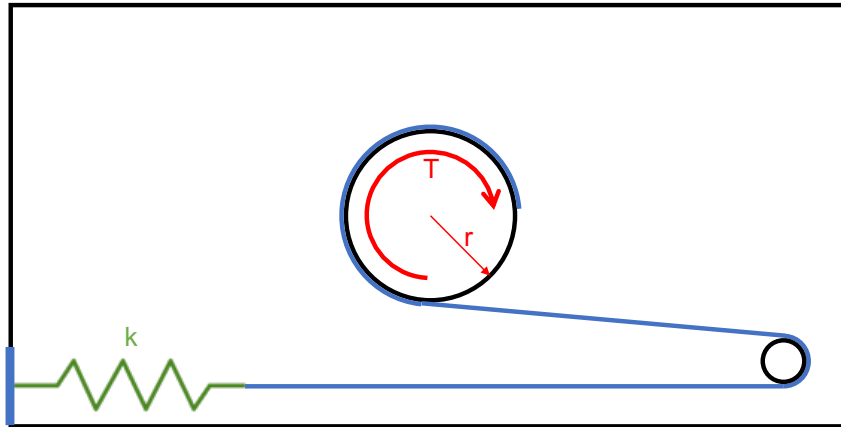

Figure 4.8: Torque analysis schematic.
1. Consider the situation described in figure 4.8. A blue string is attached to a black disc with radius r and - passing over a return pulley - to a green spring with spring constant k . The black disc is fastened to a servo motor with torque T . Using the values: $k = 500\text{N/m}$, $r = 0.02\text{m}$ as well as the torque of the servo that you can find on the datasheet and neglecting friction, how far should you be able to stretch the spring, before the servo stalls? (**PostLab Q4**)